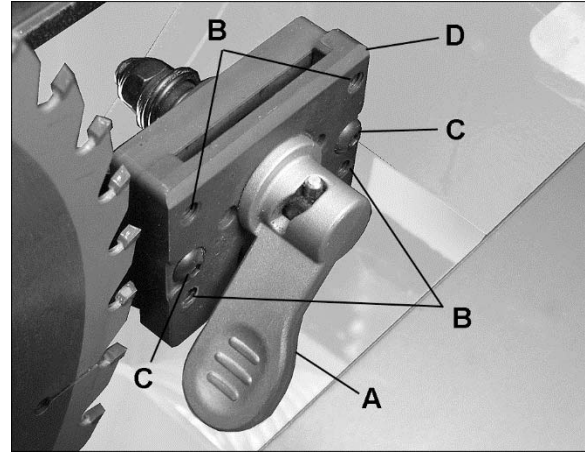
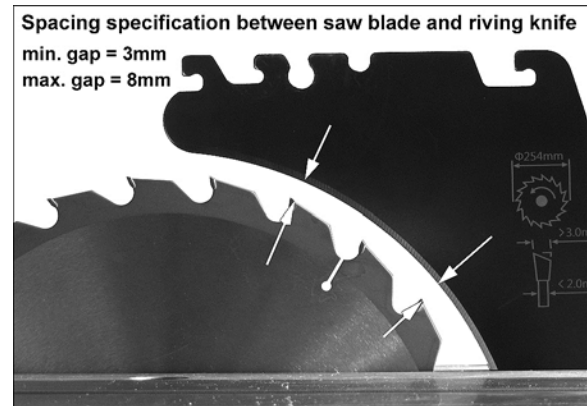

Figure 8-7
Figure 8-8
4. Pull up lever (A, Figure 8-7) and remove riving knife, making note as to which direction riving knife needs to be moved to align it with saw blade.
5. Use 3mm hex key to make adjustments to four set screws (B, Figure 8-7). Adjust any of the set screws required to bring riving knife in alignment with saw blade.
6. Reinsert riving knife, secure by tightening lever (A) and check alignment per step 2.
The gap between saw blade and riving knife must be between 3mm (0.12in.) and 8mm (0.32in.). See Figure 8-8.
3. Use 3mm hex key to loosen two socket head button screws (C, Figure 8-7). This will allow the clamp plate (D) to slide back and forth on the fixed base.
- Slide clamp plate (D) toward or away from saw blade as required. Attempt to make the gaps as even as possible.
4. Tighten screws (C).
5. Reinsert riving knife; engage lever (A) and check that saw blade/knife gap is between 3 to 8mm (Figure 8-8).